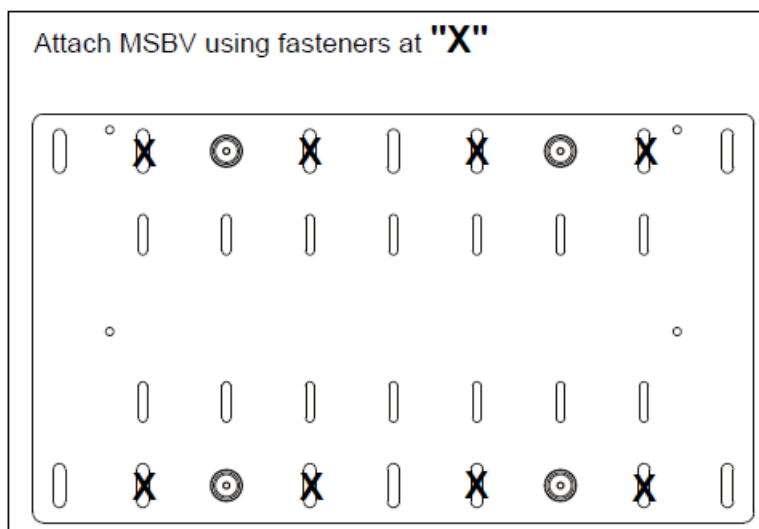

Figure 5
2. Attach the MSBV bracket (A) using the hole pattern on back of display and holes noted at "X". (See Figure 5)